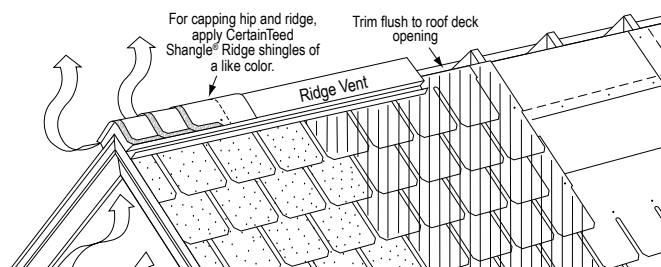

Figure 18-17: Installation of Shangle Ridge shingles on ridge vent.
8. If shingle-over ridge vents are being installed (see Figure 18-17), they must match the 12" (305 mm) width dimensions of the hip and ridge caps. Be sure to follow the ridge vent manufacturer's instructions. To attach the cap shingles to the shingle-over ridge vent, use hot-dipped galvanized nails of sufficient length to penetrate 3/4" (19 mm) into, or through, the deck.